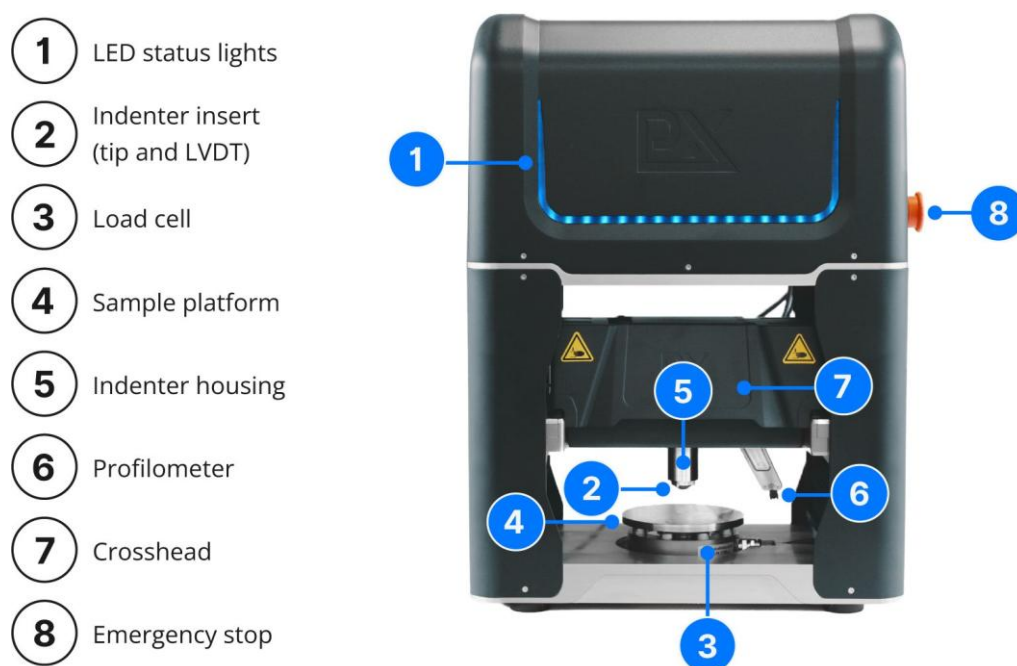

Figure 1.1 Key Components of the PLX-Benchtop
2. PLX-Benchtop: a loading frame with indenter and integrated profilometer. See the key components of the PLX-Benchtop in Figure 1.1.